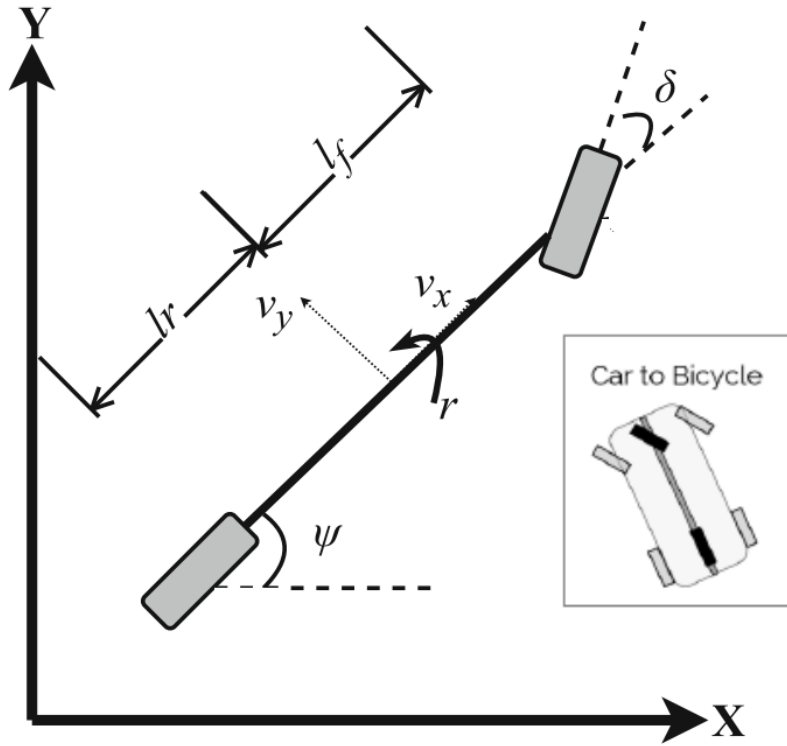

Figure 33: Car to bicycle Model with global and local references depicted with  $v_x = V_{car}$  and  $l_r = l_f = L/2$
The vehicle is described with 2 sets of Cartesian coordinates, local (x-y) and global (X-Y). Local coordinates are set to be fixed on the vehicle body. Global coordinates, on the other hand is set to be fixed on the earth coordinates. Local coordinates are always regarded as moving coordinates with respect to the global coordinates. Fig. 33 shows both the frameworks and nomenclature adopted here. The vehicle moves on the plane and its coordinates are described by the vector  $(x, y, \Psi)$ , where  $x, y$  is the position of the centre of gravity and  $\psi$  is the orientation (heading) of the vehicle.
**Task:** Consult the Fig.33. Given that  $l_r = l_f = L/2$  with  $L$  being the length of the wheelbase, precise which is local framework? which is the global framework? Which is the steering angle? Which is the heading angle? What is the difference between heading and steering angle? If  $r$  represents the change in yaw i.e.  $r$  is the yaw rate, express  $r$  in terms of  $\Psi$ .